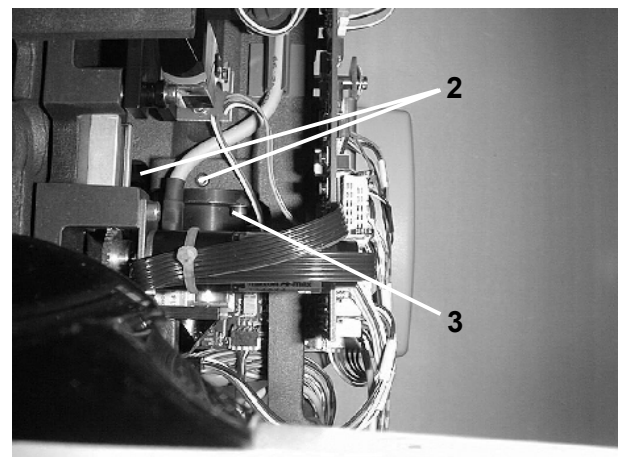

Fig. 18b
- Loosen setscrews ((2) Fig. 18b) almost all the way, but do not remove them. Do not change the position of the two opposite setscrews to ensure that a reference position for the APD board is maintained.
- Remove three screws ((3) Fig. 18b) and pull the PCB a little toward the right (viewed from user) and disconnect the two plug-in connections from the APD PCB. Remove the PCB.
- Insert the PCB from the right (viewed from user) a short way in the opening of the instrument carrier (components side points in the direction of the patient) and re-establish the two plug-in connections on the APD PCB. Insert the PCB all the way and slightly tighten screws ((3) Fig. 18b).
- Tighten screws ((3) Fig. 18b).